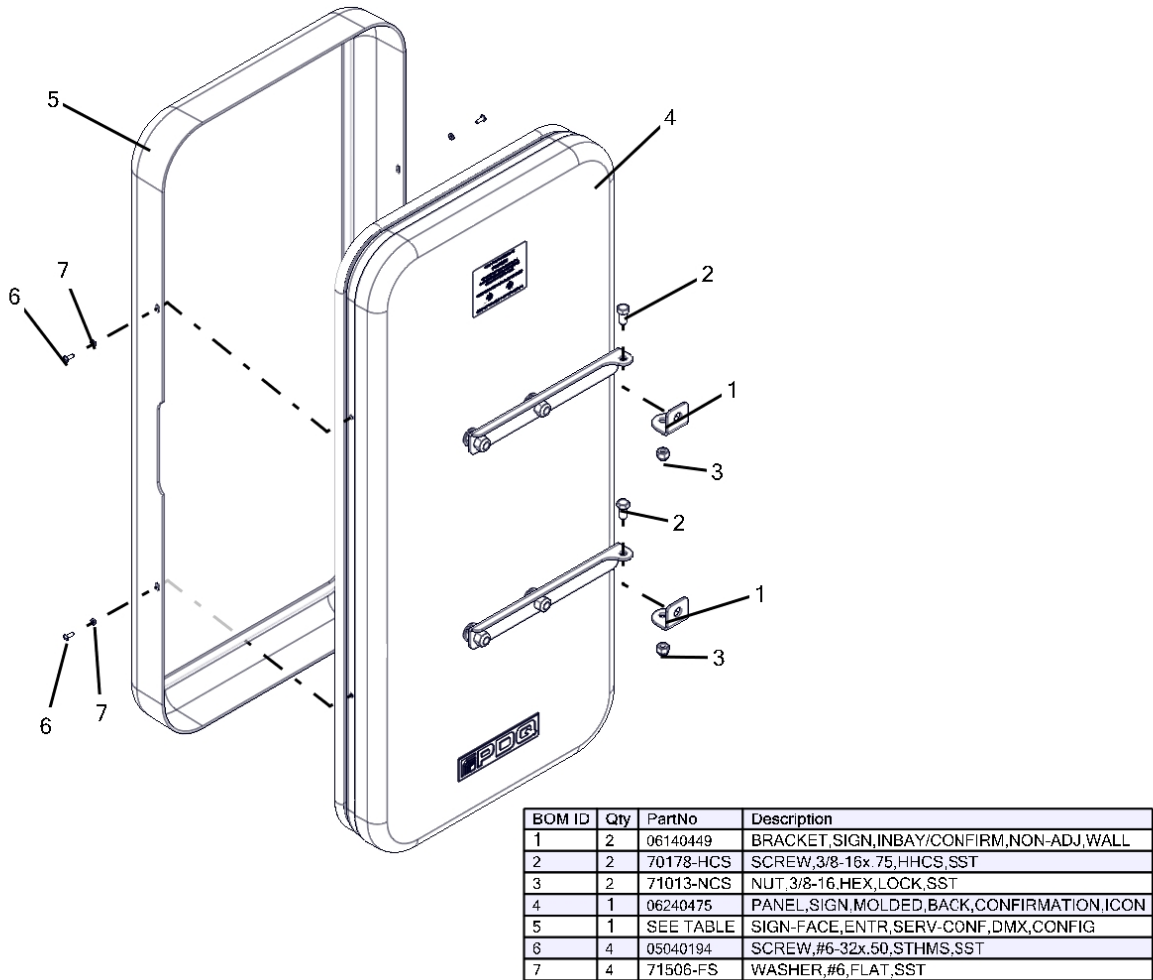

Figure 185 – Service Confirmation Sign
- The sign is built with the wall mount brackets oriented for mounting to the left wall of the wash bay. If it is necessary to mount the sign to the right wall, the brackets may be disassembled and flipped so that the mounting holes point in the proper direction for mounting to the right wall. When reassembling the brackets, always be sure the long brackets attached to the sign back are assembled on top of the smaller wall brackets, Figure 185.